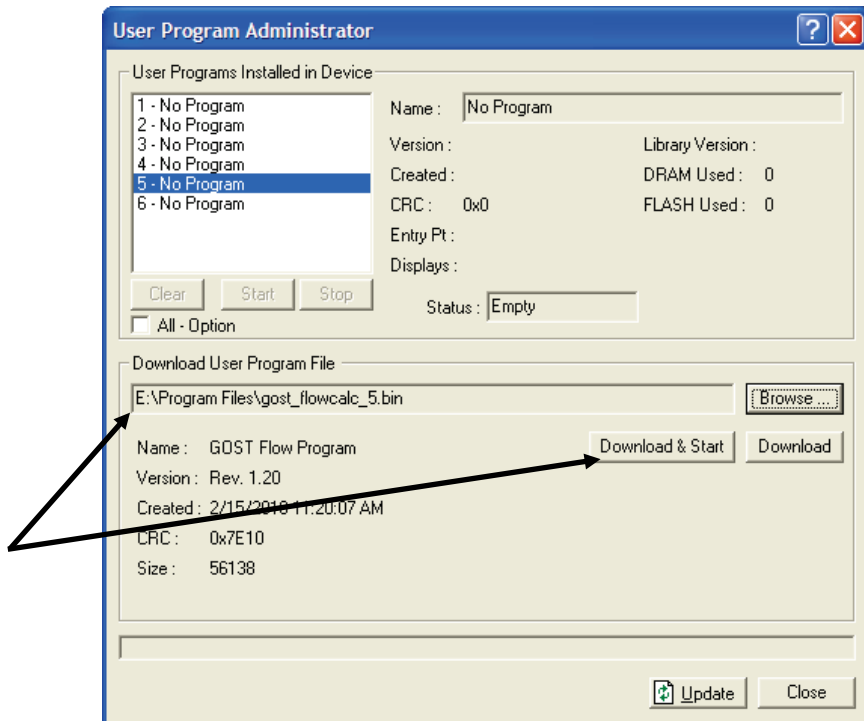

Figure 2-5. User Program Administrator
6. Click **Open** to select the program file. The User Program Administrator screen displays. As shown in Figure 2-5, note that the Download User Program File frame identifies the selected program and that the **Download & Start** button is active: